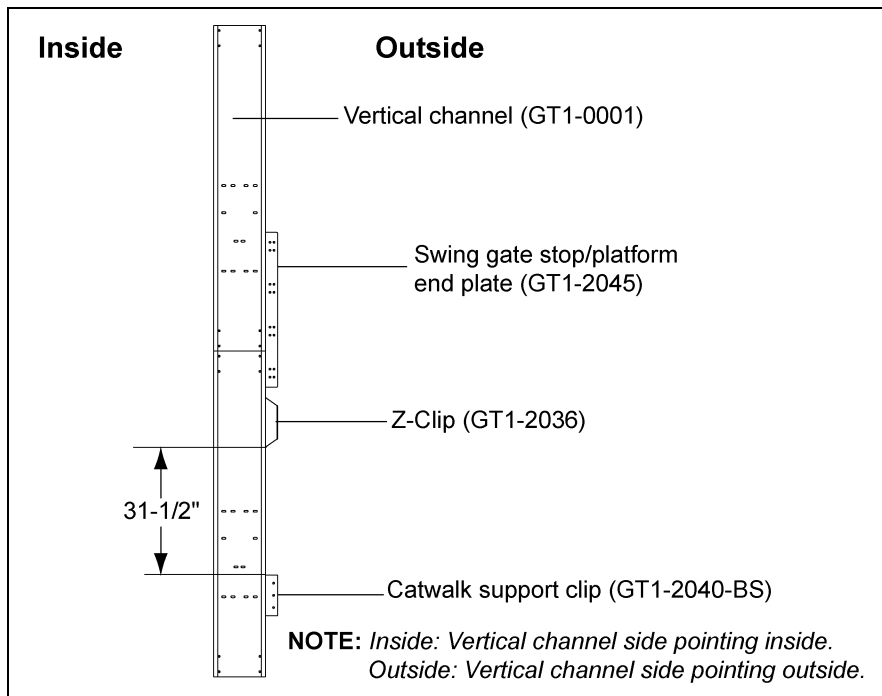

Figure 6H
2. The distance between the Z-clip and support clip for 24' offset and roof hatch platform is 31-1/2". (See Figure 6H below and Figure 6J on Page 50.)